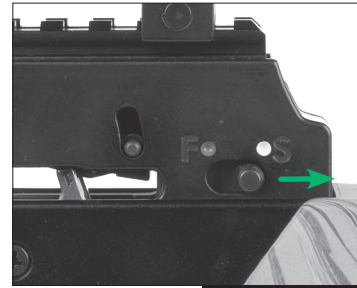

FIGURE 12
- 1b Slide the safety switch from the FIRE position to the ON SAFE position. (Fig. 12)
- 1d Carefully inspect the safety switch to ensure that it is fully in the ON SAFE position (Fig. 12). If the safety switch has not moved all the way back to the WHITE dot, it has not been placed ON SAFE and is still in FIRE position. Always visually inspect the safety switch to make certain that it is in the desired position.
WARNING: FOR ANY REASON THE SAFETY SWITCH DOES NOT FULLY MOVE TO THE ON SAFE POSITION (FIG. 12), SAFELY DE-COCK THE BOW THROUGH THE USE OF AN ARROW AS DESCRIBED IN SECTION 5.3D. DO NOT USE THE CROSSBOW. CALL CUSTOMER SERVICE AT 1-866-726-1122 FOR AUTHORIZED REPAIR.
1h Continue drawing until the trigger safety switch moves to the "ON SAFE" position. (Fig. 12)